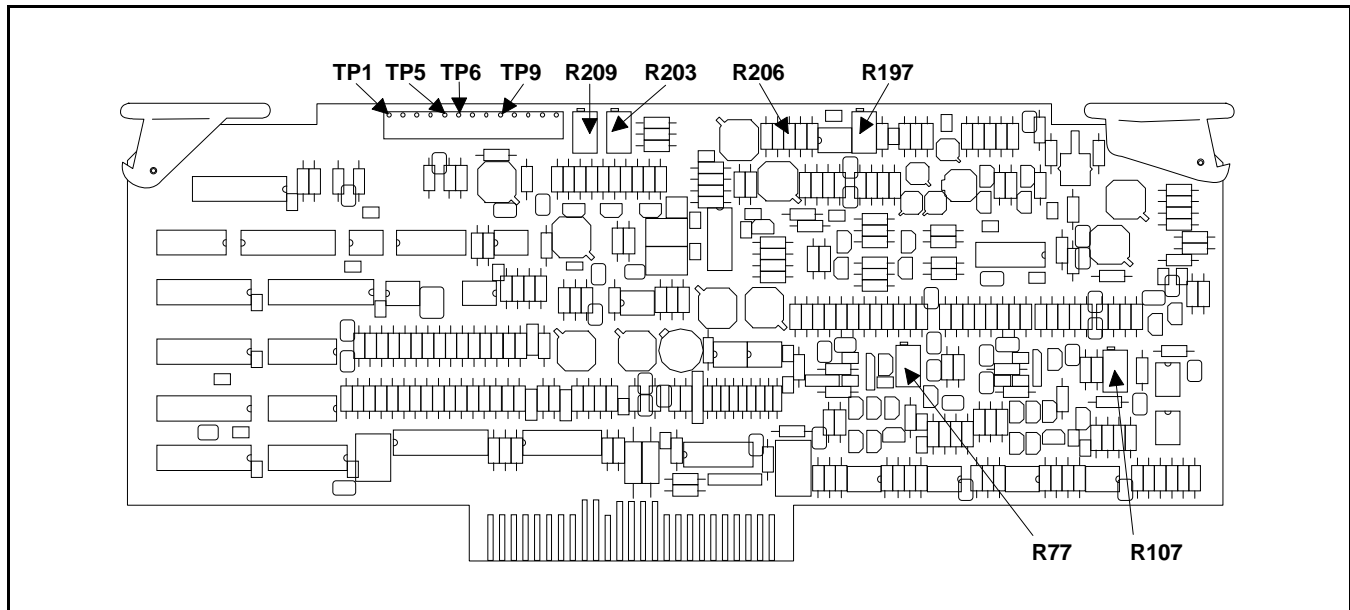

Figure 3-2. A15 ALC PCB Test Point and Adjustment Locations
3. On the 67XXB A15 PCB, adjust A15R77 for 0 Vdc \pm 10 μ Vdc (see Figure 3-2). Record this voltage on the Test Record.
3. On the 67XXB A15PCB, adjust A15R107 for 0 Vdc \pm 10 μ Vdc (see Figure 3-2). Record this voltage on the Test Record.